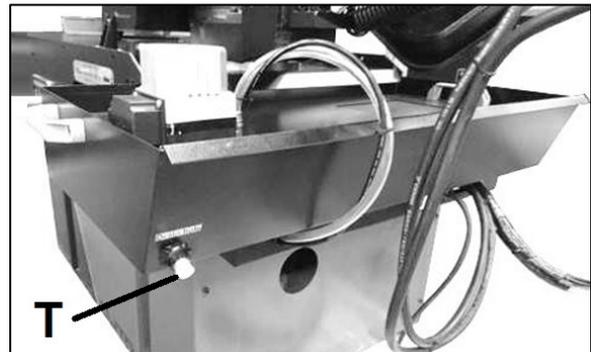

Figure 9-2: Coolant Tank
- Remove the drain plug (T, Fig 9-2). Allow the coolant to drain-out.